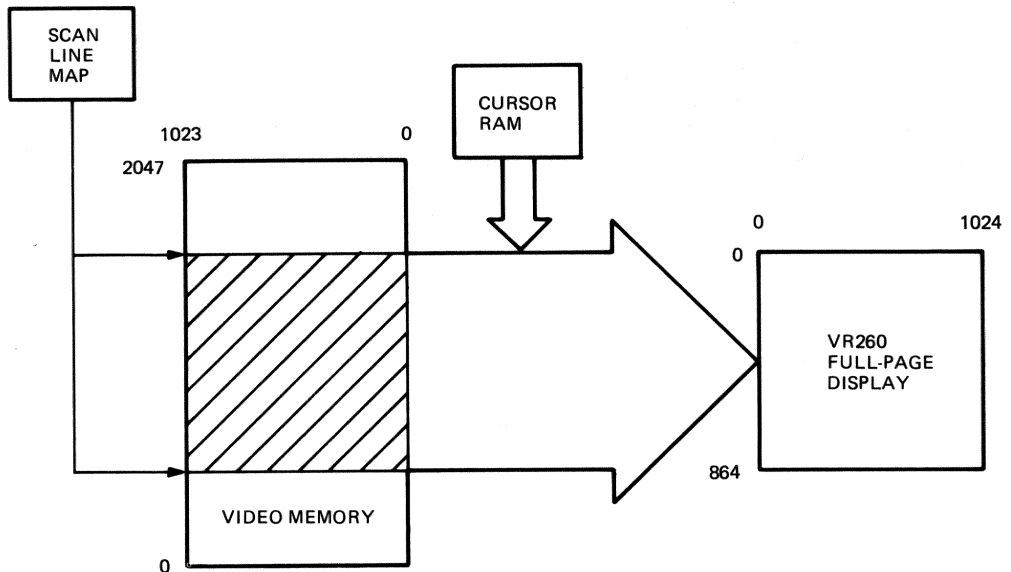

Figure C-9 VR260 Monitor Display Mapping
The video memory is a 256-Kbyte dual-ported MOS RAM array. It is a *single-plane* (or *1-plane*) bit-mapped memory; that is, the value (on or off) of each pixel on the screen corresponds to the value (1 or 0) of only one bit in memory. Each pixel is defined by its X,Y position in the memory, where Y represents a scan line 1 pixel (bit) high and 1024 pixels (bits) long (X). There are 2048 scan lines in video memory. (Figure C-9)
C.1.5.1 Scan Line Map – The scan line map comprises two $2\text{ K} \times 8$ static RAMs (refresh is not required). It is configured as a $1\text{ K} \times 11$ RAM; that is, the MSB (most significant bit) of the address is disabled, and the five MSBs of the output are not used. It translates the 10 MSBs of the CRTIC start address output (video refresh address) into an 11-bit video memory physical address, mapping any 864 of the 2048 video memory scan lines to the VR260 monitor (Figure C-9). If the VCB01 is used in half-page mode, the scan line map maps only the lowest 800 pixels of any 480 scan lines to a half-page monitor.